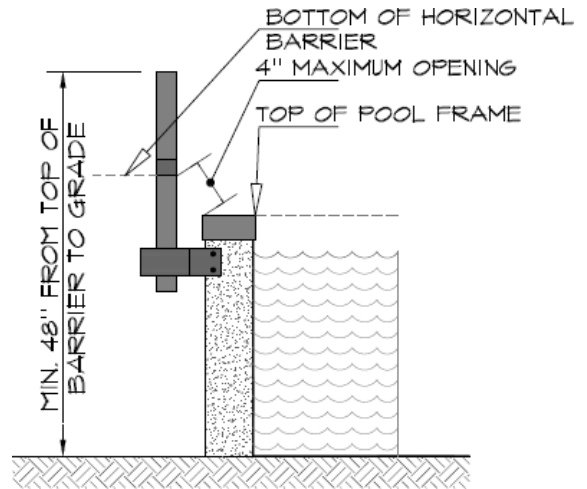
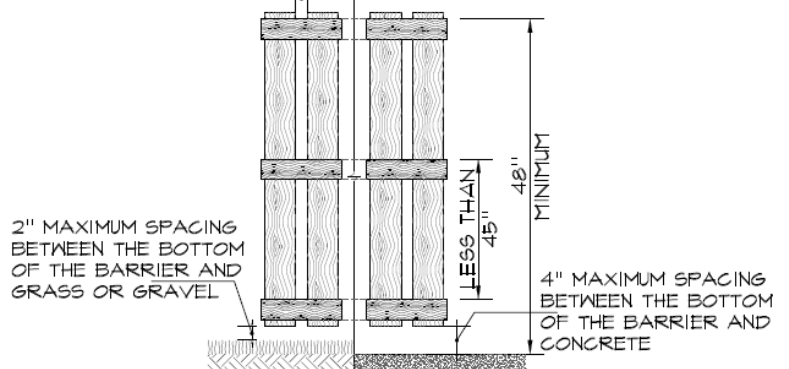

Figure 2
Figure 3
1. The top of the barrier shall be at least 48” above grade, measured on the side of the barrier which faces away from the swimming pool. The maximum vertical clearance between grade and the bottom of the barrier shall be 2 inches for grade surfaces such as grass, mulch, and gravel, and 4” for solid surfaces such as concrete, **See Figure 3**. Where the barrier is mounted on top of the pool structure, the maximum vertical clearance between the top of the pool structure and the bottom of the barrier shall be 4 inches. **See Figure 2**.
1. Where the barrier is composed of horizontal and vertical members and the distance between the tops of the horizontal members is *less than 45* inches, the horizontal members shall be located on the swimming pool side of the fence. Spacing between vertical members shall not exceed  $1\frac{3}{4}$  inches in width. Where there are decorative cutouts within vertical members, spacing within the cutouts shall not exceed  $1\frac{3}{4}$  inches in width. **See Figure 3.**